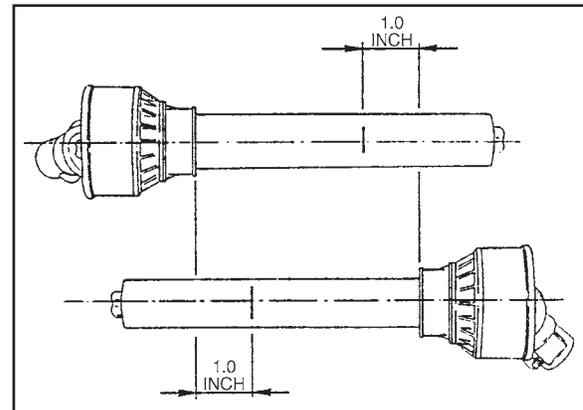

Figure 15
1. Place the two halves of the driveline together, keeping them parallel (see Figure 15). Using a felt-tip pen, match-mark the place where the two halves must be shortened, measuring 1.0" from the beginning of each half, as shown in Figure 15.